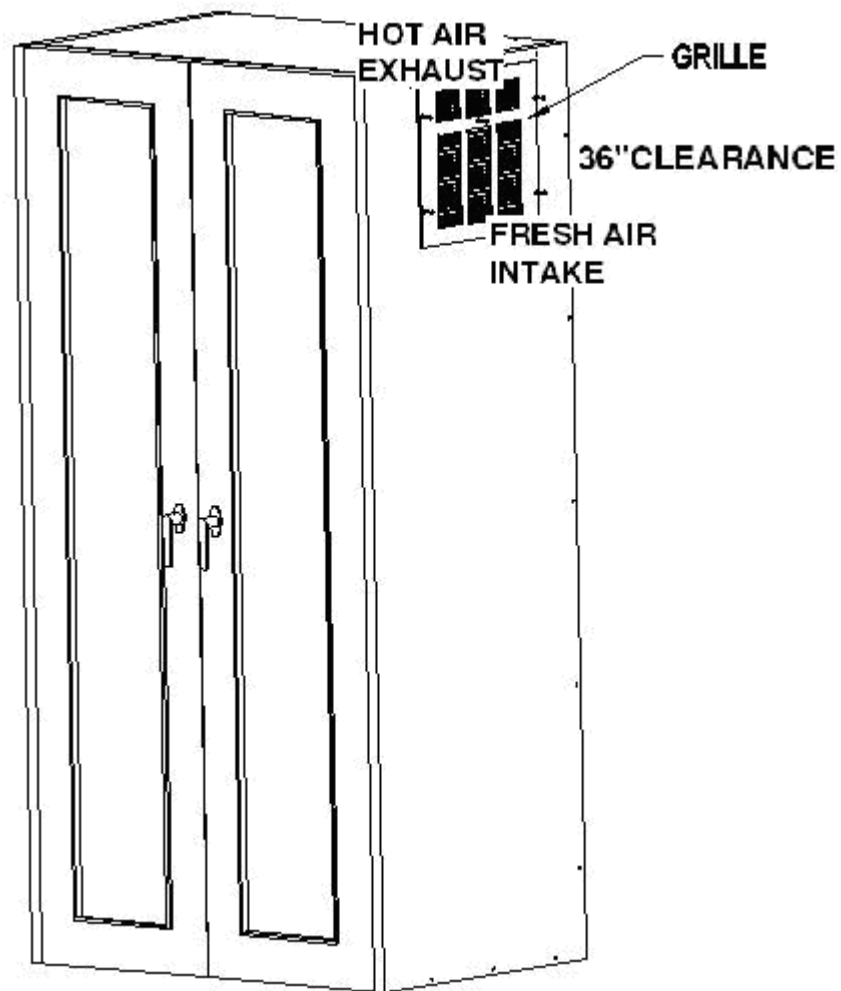

Fig. 2.7 CABINET GRILLE
- Install the cabinet grille on the cabinet exterior wall (see Fig. 2.7).